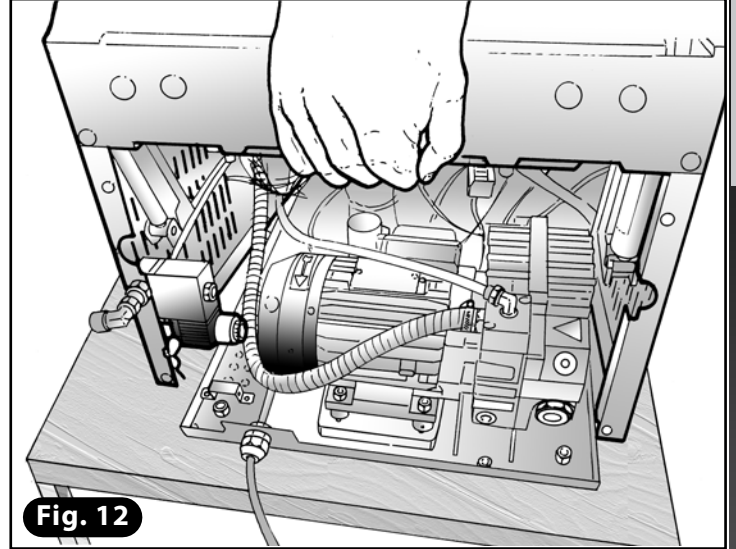

Fig. 12
- 18) Lower the body down onto the base making sure it is positioned correctly (Fig. 12).